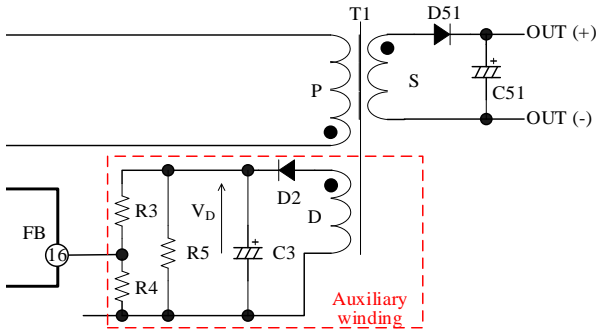

Figure 9-7. Detection by Auxiliary Winding
Without an optocoupler, the secondary output voltage is controlled by detecting the voltage coupled by the secondary output and the transformer in the primary side, using the auxiliary winding, D, as shown in Figure 9-7. The relation between the smoothing voltage, V_D , and the secondary output voltage, V_{OUT} , is determined by the ratio of the auxiliary winding turns, N_D , and the secondary winding turns, N_S , as shown in Equation (4).